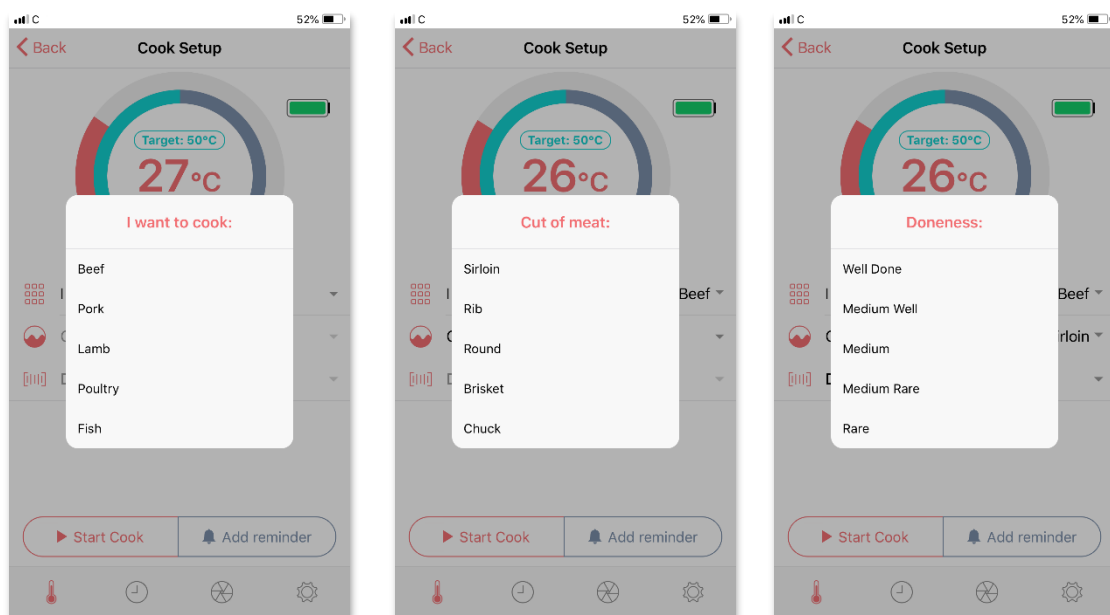

Figure 8. Displays of “Type of Meat”, “Cut of Meat” and “Doneness”
3. Choose the type of meat to cook by tapping “I want to cook” once and then select the meat type (see Figure 8).
4. Choose the cut of meat to cook by tapping “Cut of meat” once and then select the cut of meat (see Figure 8).
- Choose the doneness by tapping “Doneness” once and then select the desirable doneness (see Figure 8).